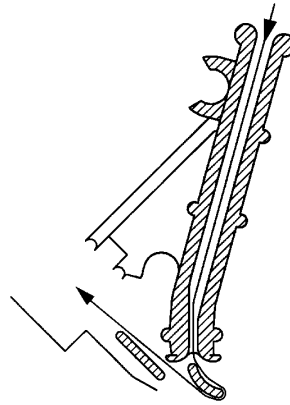
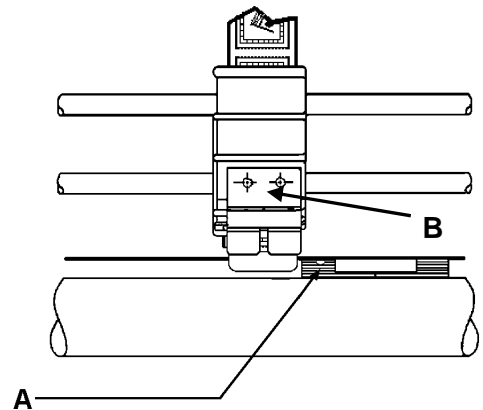

Figure 5
Figure 8
5. Thread labels into the L-250/350 following the LABEL THREADING DIAGRAM [Figure 5].
9. Make sure the label peels off straight and is parallel with the peeling edge [Figure 3C] and [Figure 5].
9. Thread the stamps into the L-350 following the LABEL THREADING DIAGRAM [Figure 5].
2. Thread labels/tabs/stamps into the labeler following the diagram [Figure 5 or Figure 8].
12. The counter (H. Fig. 8) will advance one count with every label placed on an envelope. It will only count when **LABEL ON** switch is activated. Maximum count is 99,999. To reset the counter to 0, depress the **COUNTER RESET** switch (1, Fig. 8).
12. Complete the tab routing through the sensor assembly, around the peel bar, through the pressure rollers, and into the take-up roller split shaft see Figure 8 in this manual.